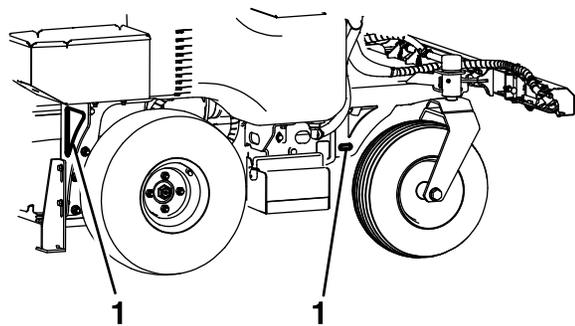
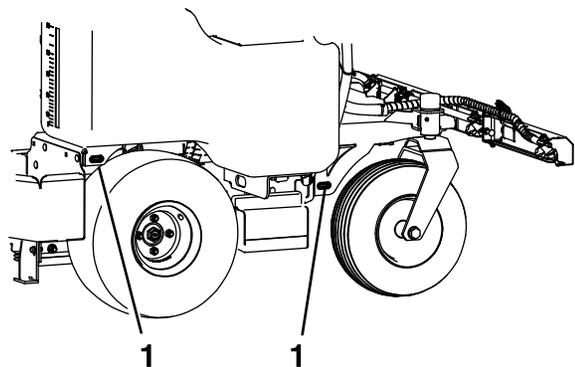

Figure 34
Figure 35
- Securely fasten the machine to the trailer or truck with straps, chains, cable, or ropes. When securing the front of the machine, only use the tie down locations shown in Figure 34 and Figure 35. If possible, both front and rear straps should be directed down and outward from the machine. Using non-designated locations may cause damage to the machine and/or attachment.